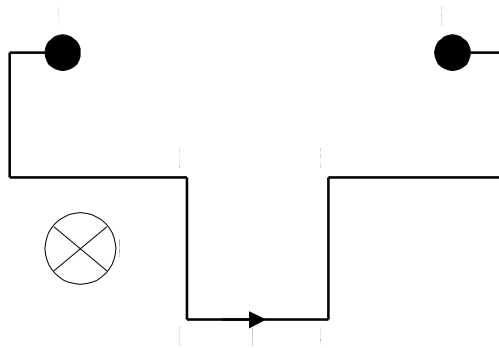

Figure 5: Current Loop.
The current will flow through the prefabricated current “loops” as shown in Figure 5. Several current loops are available with different lengths of the 3-4 segment (see Table 1). Points 1 and 6 are connected to a DC power supply. If the magnetic field is in the direction shown in the figure (going into the page), then the current in 3-4 segment of the loop should be in the direction shown to produce the desired direction of the force on the magnet assembly (more on this in the Procedure section).
6. Increase the current flowing through the current loop by 0.5 A increments, up to a maximum of 4.0 A. At each value of the current, find the “new mass” of the magnet assembly. Note that if the mass of the magnet assembly is *decreasing* as the current increases, the direction of the current with respect to the magnetic field is not the same as described in Figure 5. If this happens, reverse the electrical connection to the main unit.